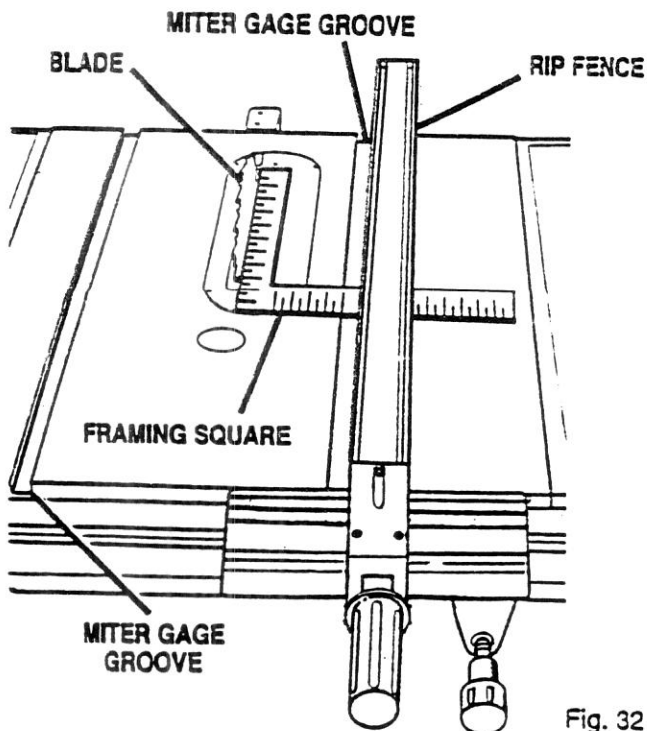

Fig. 32
See Figures 32, 33, and 34
- Place a framing square against the blade, with the long end under the rip fence at the front. See Figure 32. Note the distance.